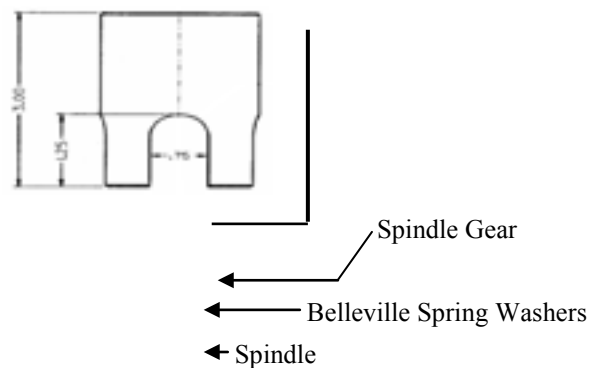

fig. 8
- 40, 53, 56, 80** To remove retaining ring (80) from spindle (53) use service fixture 61-30-0290. Note: Spindle gear / clutch gear (40) must be compressed against Belleville spring washers (56) before retaining ring can be removed. (see fig.8)
- 21, 23, 35** Remove carbon brushes (23) from motor housing (35) prior to removing armature assembly (21).
- 88, 97** Small diameter end of striker (88) must face stop washer (97) in assembly.
- 53, 97** Chamfer side of stop washer (97) to face front of spindle (53).
- 31, 5** Raised bosses on mount bracket (58) must face crankcase (31) in assembly.